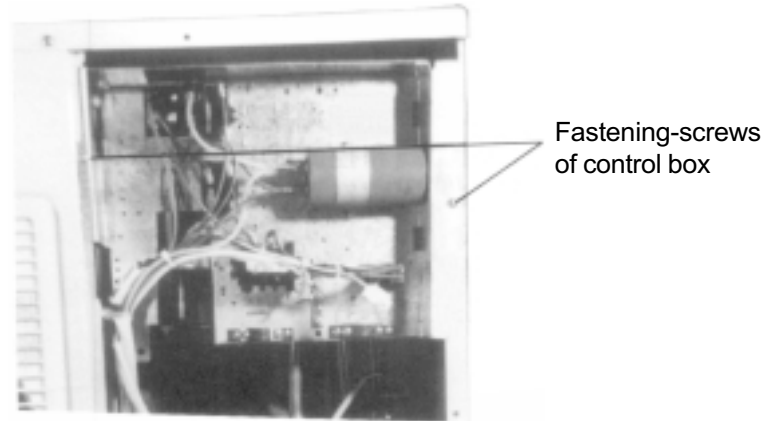

Figure 38
- ③ Disassemble the control box.
- Unscrew the two screws fastening the control box, and pull the control box upward and remove it as shown in figure 38.